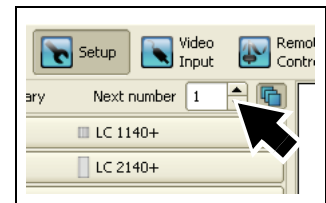

Figure 9: Next panel address number
2. See Figure 9. In the configuration file you want to work in, open the **Setup view** window. Check that **Next number** (arrowed) is set to 1.